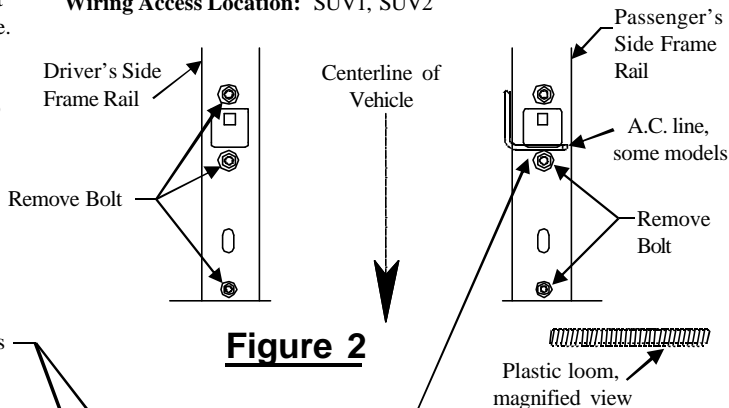
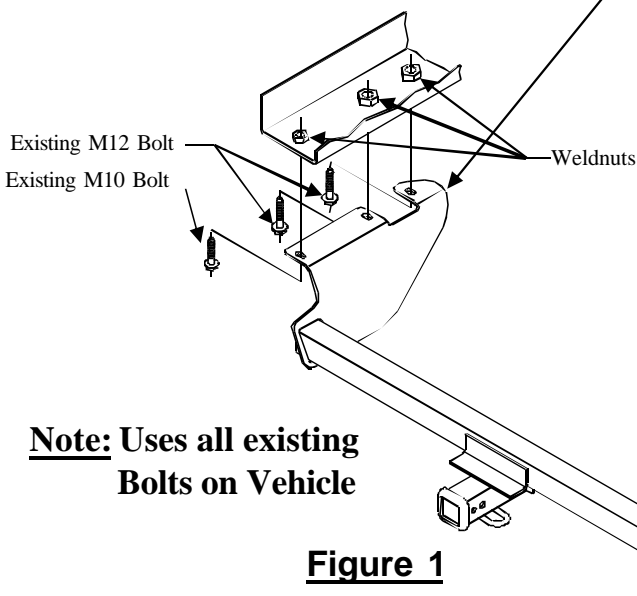

Figure 2
Figure 1
2. Snap plastic loom in place over Air Conditioning line on Passenger's side near bolt if present. See Figure 2 above.
3. Remove existing bolts from frame rails as shown in Figure 2, (3) on driver's side, (2) on passenger's side and retain for hitch installation.
4. Remove plastic rivet holding plastic mud flap to Driver's side frame. May have to trim plastic after Step (4). You will not reinstall plastic rivet.
5. Raise hitch into position as shown in Figure 1 and attach with existing bolts removed in step 2. Hand tighten.